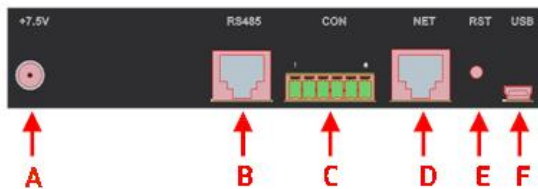
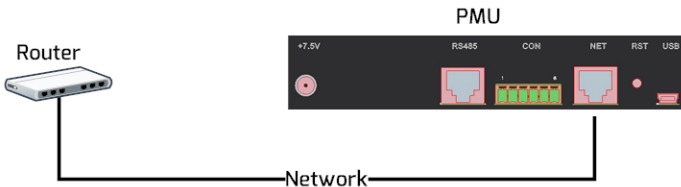
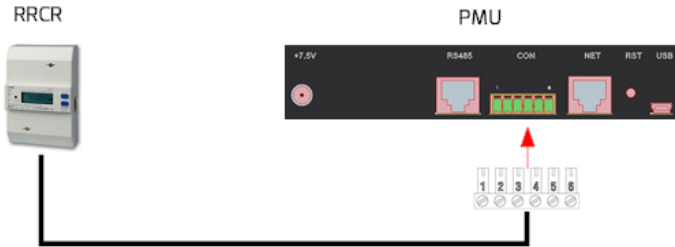

Fig. 6-1: Connection area
Fig. 6-5: PMU linked network
Fig. 6-8: Connect to RRCC
Fig. 6-1 shows the connection interfaces of the PMU to other devices.
The function of each interface in Fig. 6-1 is shown in Table 6-2.
Step 2: Connect the inverter with the PMU. Connect the inverter closest to the RS485 interface of the PMU (as the port B in Fig. 6-1) as shown in Fig. 6-2.
1. The RS485 port between the PMU and the inverter (port B in Fig. 6-1) uses the RJ45 socket. Please make sure to use the correct position.
The PMU is connected to the network by simply connecting the network cable from the router to the network port of PMU (port D in Fig. 6-1), as shown in Fig. 6-5.
The RRCR is connected to the CON port of the PMU (port C in Fig. 6-1), as shown in Fig. 6-8.
Connect the power adapter from the box with the Power Port (port A in Fig. 6-1). Plug the other end into a power outlet, check that the LED (Power) light turns on as shown in Fig. 4-1, and watch the PMU start to work.